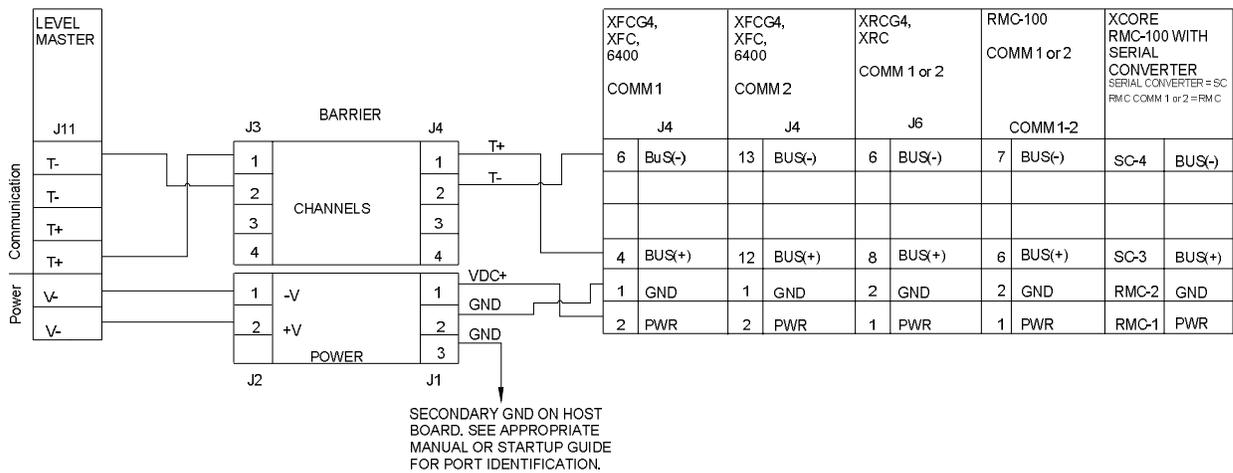

Figure 34: LevelMaster wiring to different types of ABB Totalflow host controllers through a safe barrier
3. Insert the wires from the host controller in the correct connector pins. See Figure 34 for quick reference for ABB Totalflow devices.